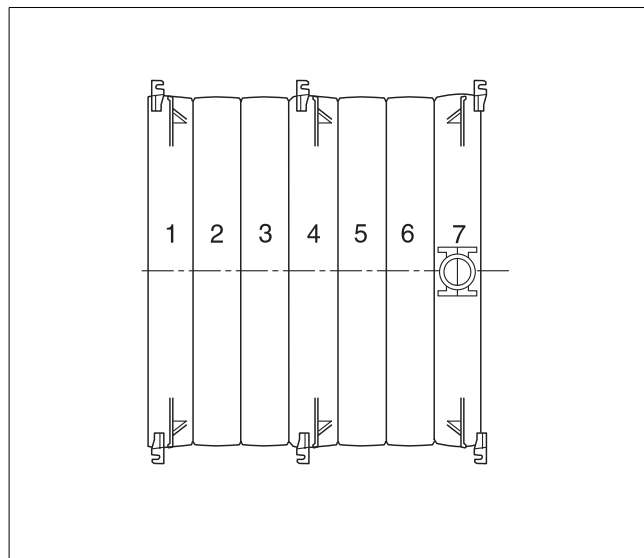
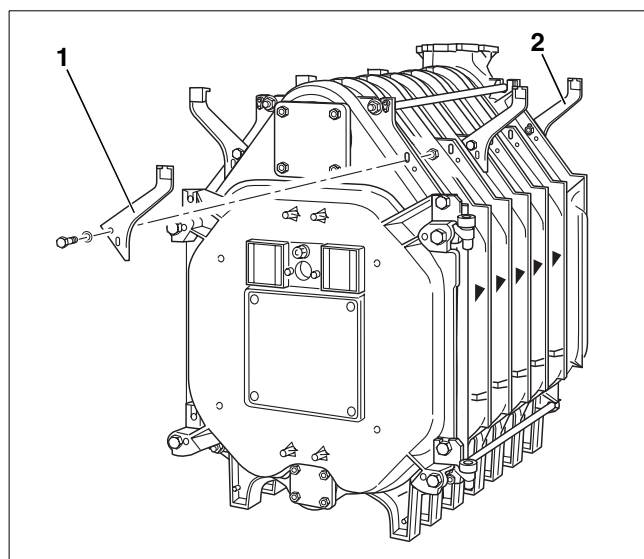

Fig. 34 Plan view of boiler block (7 sections) showing brackets
Fig. 35 Assembly – Fitting brackets
- Screw the brackets for the boiler casing loosely to the top ribs on the left and right of the boiler sections as indicated in the table below and as shown in Fig. 34 and Fig. 35.
The brackets on the front section and middle sections (Fig. 35, **ref. 1**) must always be screwed to the front of the ribs and those on the rear section (Fig. 35, **ref. 2**) should be screwed to the rear of the ribs.